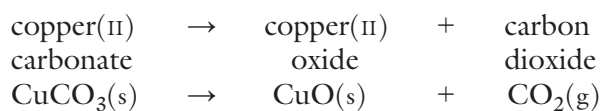

Figure 13.12 Three naturally occurring carbonates – dolomite with magnesite in front (left) and malachite (right).
addition to the calcium carbonate in limestone, chalk and marble, malachite is copper(II) carbonate and dolomite is magnesium carbonate (Figure 13.12).